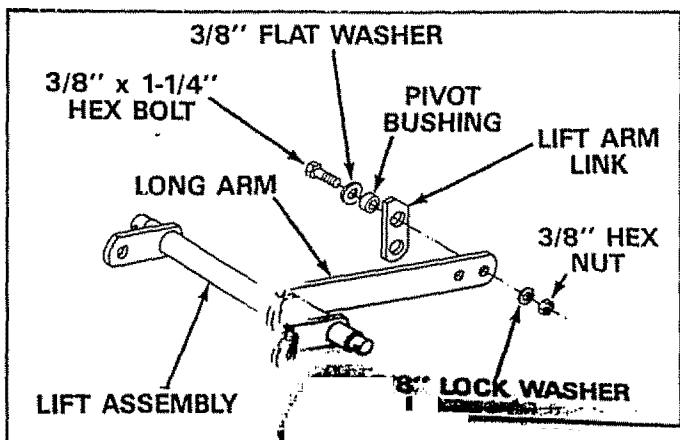

FIGURE 12
9. Pre-assemble lift arm link to inside of long arm on lift assembly. As shown in figure 12.
10. Assemble one 3/8" x 1-1/4" hex bolt through 3/8" flat washer, through pivot bushing, through large hole in lift arm link near angle end and through hole in long arm nearest the end. Secure with one 3/8" lock washer and one 3/8" hex nut. See figure 12. NOTE: Lift arm link must pivot freely.
Lift arm link must be positioned as shown in figures 12 and 13.